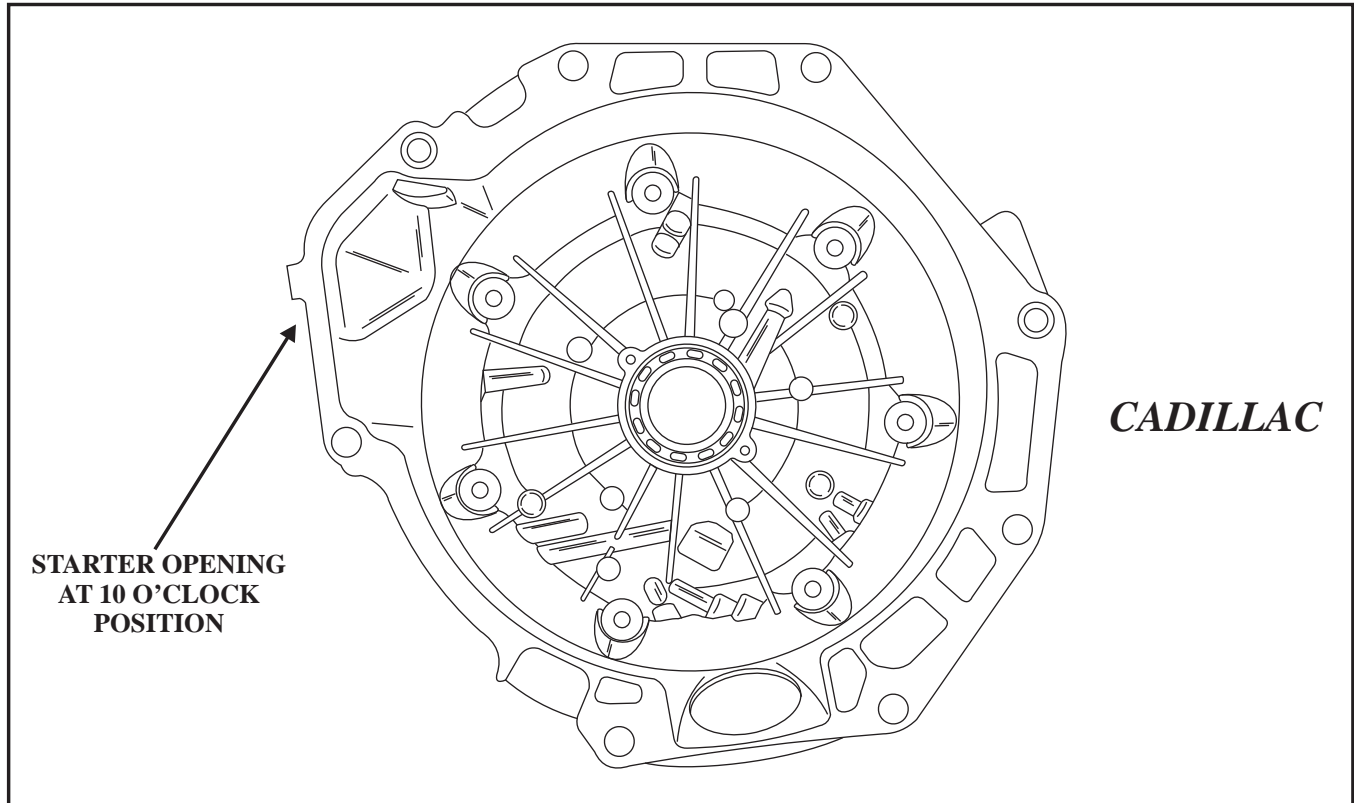

Figure 1
**CORRECTION:** Figure 1 illustrates the Cadillac bell housing which also incorporates the pump body.